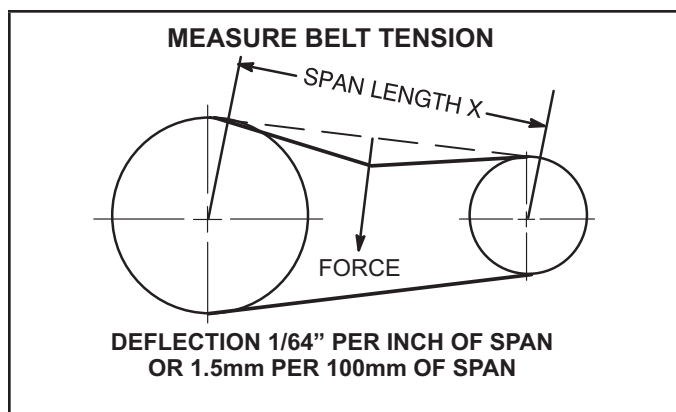

FIGURE 12
- 1 - Measure span length X. See FIGURE 12.
- 2 - Apply perpendicular force to center of span (X) with enough pressure to deflect belt 1/64" for every inch of span length or 1.5mm per 100mm of span length. Example: Deflection distance of a 40" span would be 40/64" or 5/8".